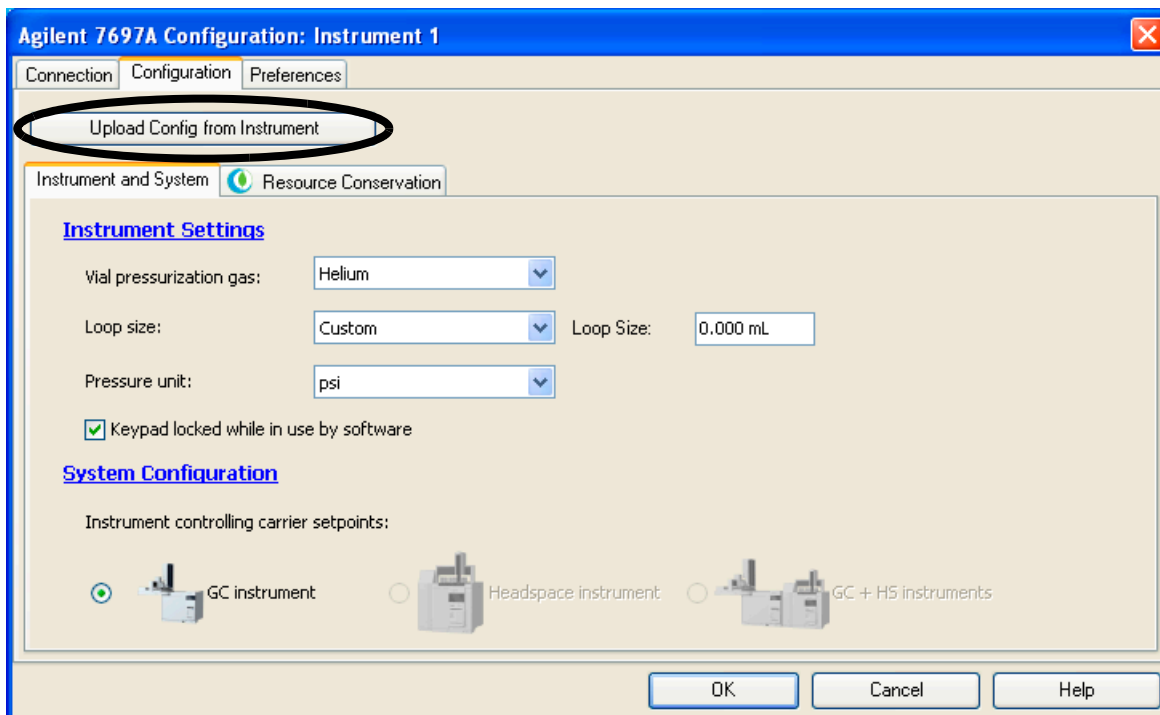

**Figure 9** Setting instrument and system information
- 3 Select **Configuration > Instrument and System** (Figure 9) to configure the instrument settings and to select your desired system carrier gas configuration.